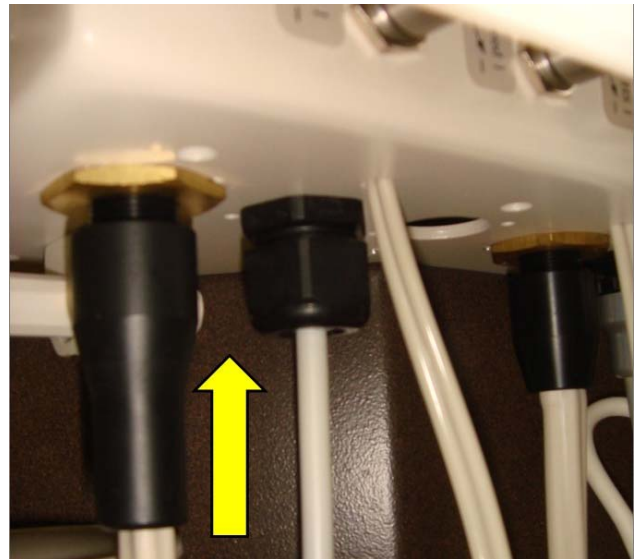

Fig. 1
4. Locate the ultrasonic strain relief that attaches under the delivery system. (Fig. 1)